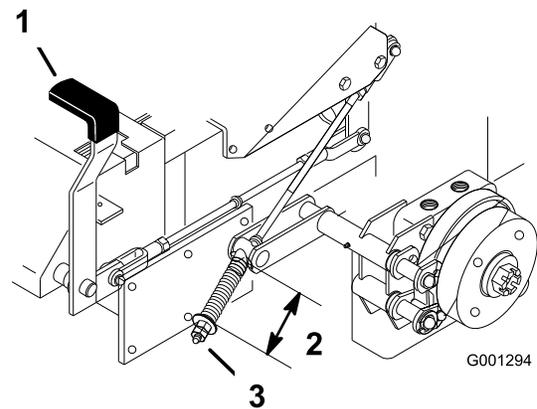

Figure 62
2. Measure the length of the spring. Measurement should be 64 mm (2-1/2 inch) between the washers (Figure 62).
3. If adjustment is necessary, release the parking brake, loosen the jam nut below the spring and adjust the nut directly below the spring (Figure 62). Turn the nut until the correct measurement is obtained. Turn the nut clockwise to shorten spring length and turn counter-clockwise to lengthen the spring.